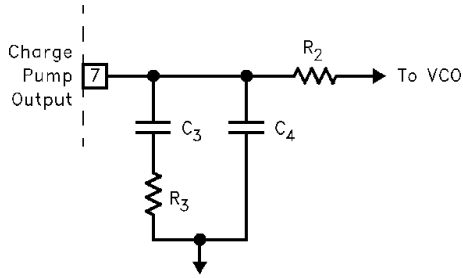

FIGURE 12. TYPICAL LOOP FILTER
6. Notice R₂ has little effect on the loop filter design. R₂ should be large, around 100k, and can be adjusted to compensate for any static phase error T₀ at lock, but if made too large, will slow loop response. If R₂ is made smaller, T₀ (see “Timing Diagrams” on page 5) increases, and if R₂ increases, T₀ decreases. For LDET to be low at lock, |T₀| < 50ns. C₄ is used mainly to attenuate high frequency noise from the charge pump. The effect these components have on-time to lock is illustrated in Figure 12.